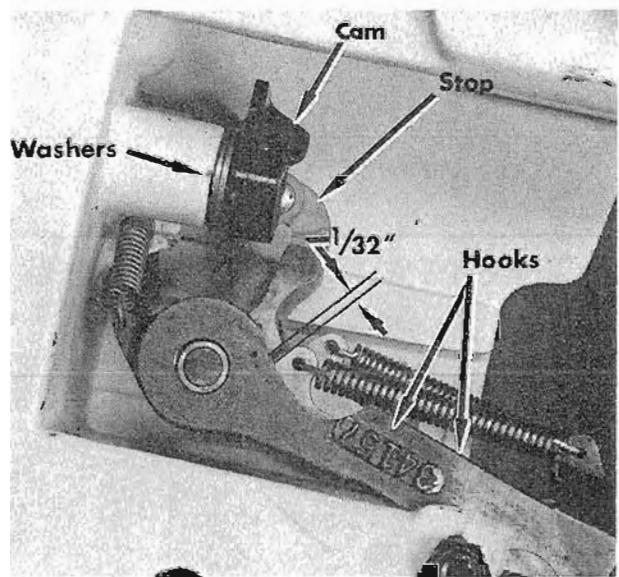

Figure 4. Cam Position
- c. Reverse lock cam shimmed to correct clearance. (Figure 4)